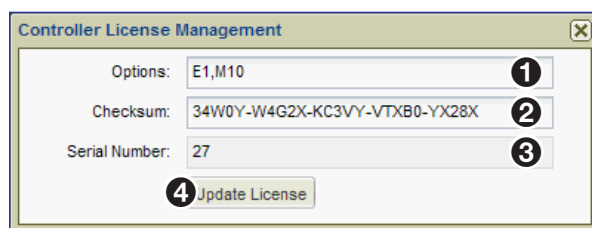

Figure 164. Controller License Management Dialog
The **Controller License Management** dialog box opens (see figure 164). Keep this window open.
- The **serial number** of the VNM Enterprise Controller (see figure 164, ❸). This can be obtained from the **Controller License Management** dialog in figure 164, or from the rear panel.